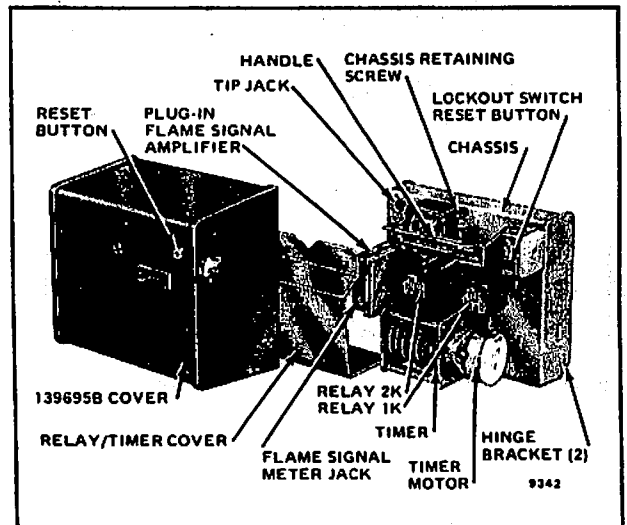

FIG. 11—COMPONENTS OF THE R4140Y PROGRAMMER.
Refer to Fig. 7 for terminal locations, and to Fig. 11 for locations of component parts.
9. Lockout switch is reset (push in lockout switch reset button, Fig. 11).